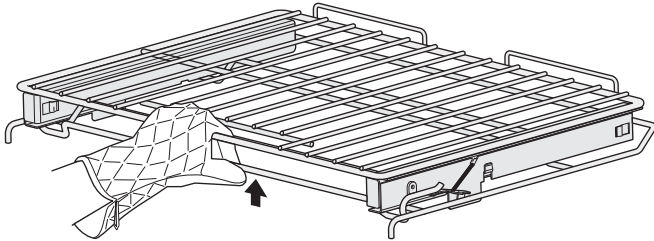

Figure 16: Releasing Glide rack lock
1. Grasp the locking bar beneath the handle as shown in Figure 16. Pulling up on this bar unlocks the rack.